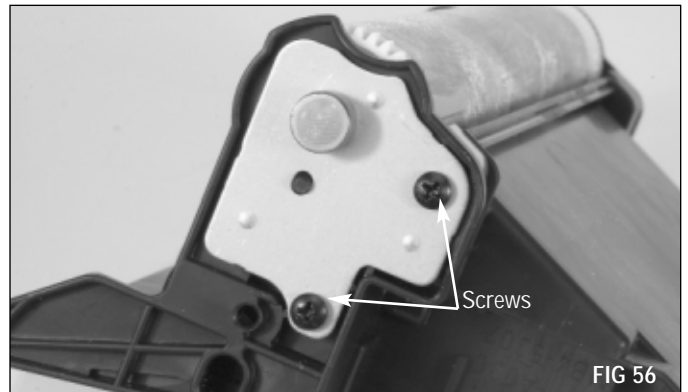

FIG 56
- 14.** Install the drum spur gear axle in the waste bin housing (FIG 56).